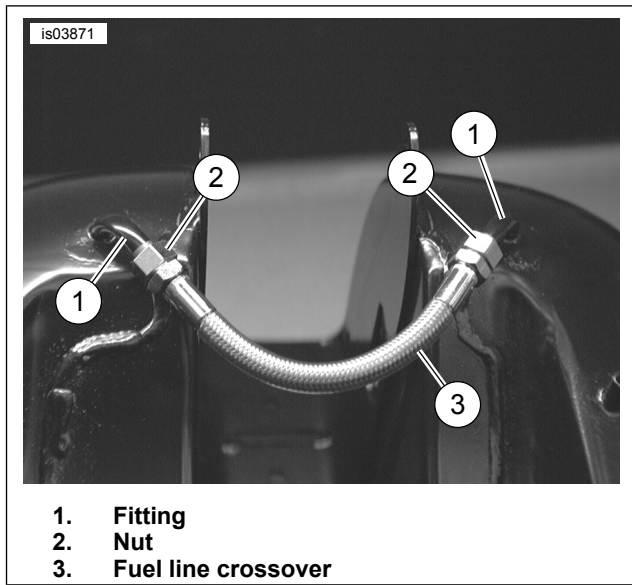
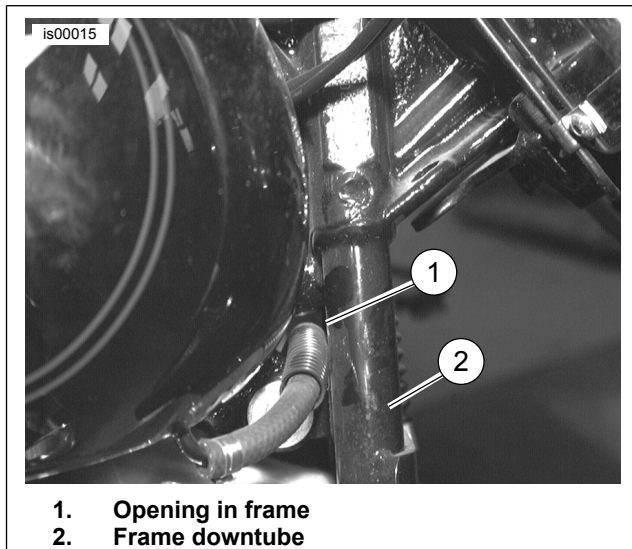

Figure 1. Install Braided Line (Typical) (Tank removed for illustration purposes only)
Figure 2. Fuel Line Routing (1986 to 1999 Softail Models Only)
4. For ALL models **except 1986 through 1999 Softails:** See Figure 1. Following the same routing as the original crossover hose, install the braided line from the kit to each of the nuts. **For 1986 through 1999 Softail models:** See Figure 2. Route the braided crossover line through the opening in the frame at the inboard side of the frame downtubes as shown.